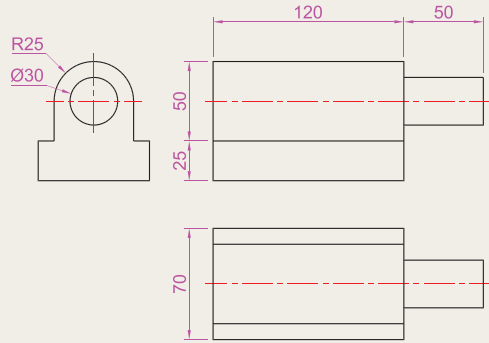

Fig. 7.25 Exercises 2 and 3
- Figure 7.25 shows a first angle orthographic projection of the other part of the fitment. Construct a three-view third angle orthographic projection of the part.
- Construct an isometric drawing of the part shown in Fig. 7.25.